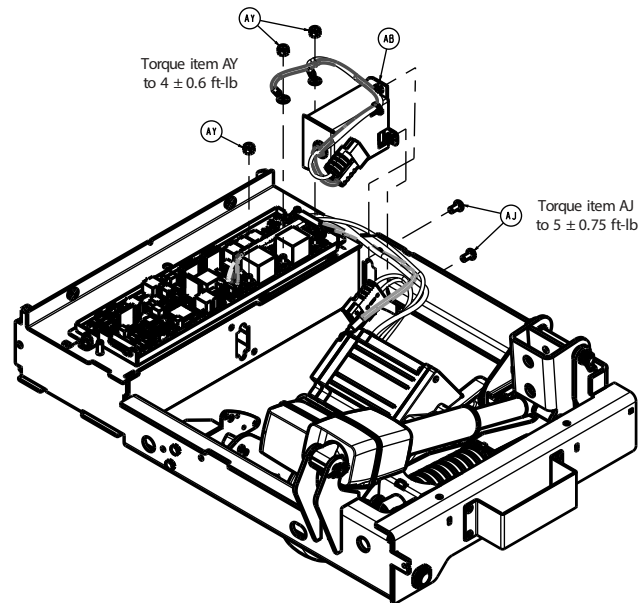

Figure 70 – Removing the motor power wire
18. Using a ratchet and 7/16" socket, remove the nut (AY) that secures the motor power wire to the **Zoom** control (Figure 70). Save the nut.